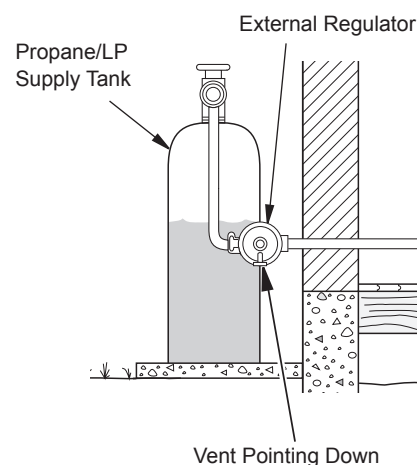

Figure 12 - External Regulator With Vent Pointing Down
3. Connect to gas supply. See Connecting To Gas Supply, (see Figure 12, page 11).
For propane/LP units, the installer must supply an external regulator. The external regulator will reduce incoming gas pressure. You must reduce incoming gas pressure to between 11 and 14 inches of water. If you do not reduce incoming gas pressure, heater regulator damage could occur. Install external regulator with the vent pointing down as shown in Figure 12. Pointing the vent down protects it from freezing rain or sleet.